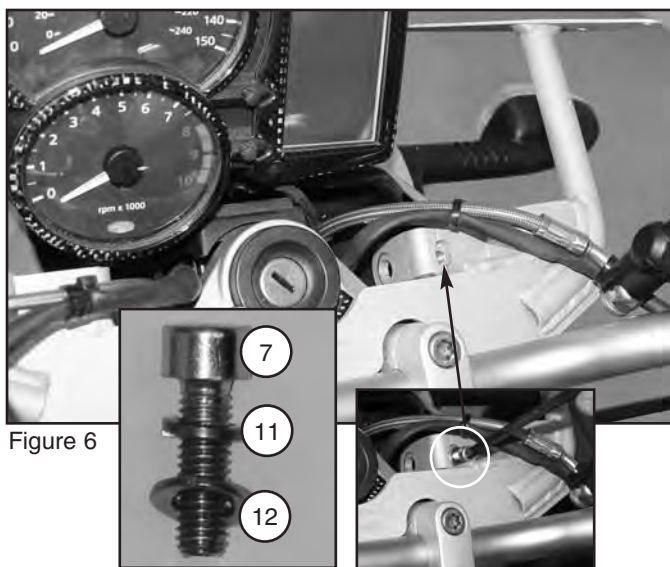

Figure 6
6. Assemble a lock washer (12) and a flat washer (13) on a M6 x 20 screw (7). Align bracket and install screw assemblies into top hole. **Do not fully tighten. (5mm Allen Wrench) Figure 6**